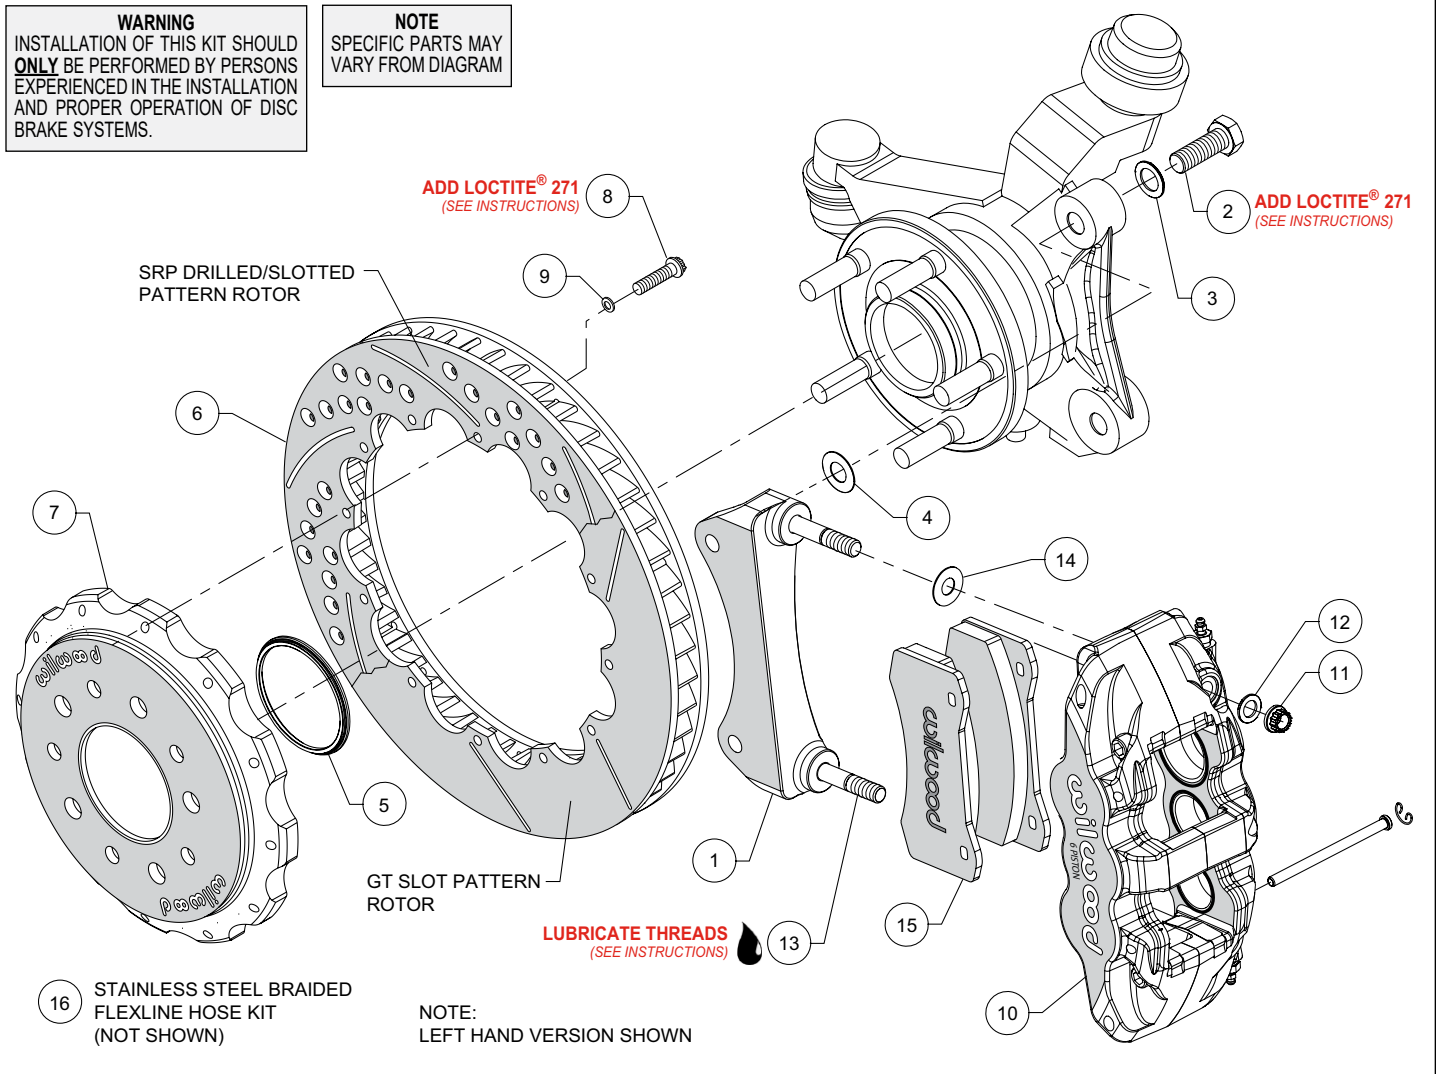
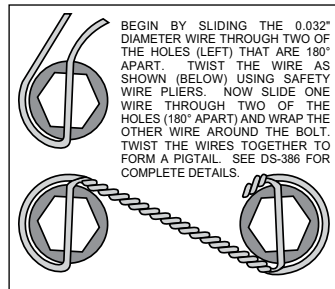

Figure 1. Typical Installation Configuration
Figure 3. Safety Wire Diagram
NOTE: Numbers in parenthesis refer to the parts list, and Figure 1 on the preceding pages.
- The caliper mount bracket (1) should initially be installed with clean, dry threads on the mounting bolts. Orient the bracket as shown in Figure 1 and Photo 1 and install using mount bolts (2) and washers (3). Initially place one .029" thick shim (4) on each bolt between the bracket and upright, Figure 1. Temporarily tighten the mounting bolts. **NOTE:** The bracket must fit squarely against the mount bosses on the upright. Inspect for interference from casting irregularities, machining ridges, burrs, etc. Later, after the caliper alignment has been checked, the mount bolts will be secured using red *Loctite*® 271.
- Orient the rotor (6) and the hat (7) as shown in Figure 1 and Photo 2. Attach rotor to hat using bolts (8) and washers (9). Apply red *Loctite*® 271 to the bolt threads and torque to 155 in-lb using a criss-cross pattern. For an added measure of security, the bolts may be safety wired using standard 0.032 inch diameter stainless steel safety wire as shown in Figure 3. Please refer to Wilwood's data sheet DS-386 (available at www.wilwood.com/Pdf/DataSheets/ds386.pdf) for complete safety wire installation instructions.
- Slide the rotor registration adapter (5) onto the axle register on the axle hub with the smaller O.D. facing outward, Figure 1 and Photo 3.
- **NOTE:** This kit contains distinct right and left hand calipers that must be mounted in a specific direction, as described below. Lubricate the caliper mounting studs (13) with lightweight oil. Initially place one .030" thick shim (14) on each stud between the caliper and the bracket, as shown in Figure 1 and Photo 6. Mount the caliper (10) onto the bracket (1) using lock nuts (11) and washers (12), Figure 1. Temporarily tighten the lock nuts. Ensure that the caliper is mounted so the largest pistons are at the rotor exit end of the caliper, in relation to the direction of the rotor. View the rotor through the top opening of the caliper. The rotor should be centered in the caliper, Photo 7. If not, adjust by adding or subtracting shims (4) between the bracket and the upright. Always use the same amount of shims on each of the two mounting bolts. Once the caliper alignment is correct, remove the bracket mounting bolts (2) one at a time, apply red *Loctite*® 271 to the threads, and torque to 77 ft-lbs.
sliding out the pins. Insert the brake pads (15) into the caliper from the bottom, Figure 1 and Photo 8. With the friction material facing the rotor, secure the brake pads in place with the pad retaining pins and clips, Figure 1 and Photo 9. Reinstall the caliper onto the caliper mounting bracket and temporarily tighten the lock nuts. Check that the top of the brake pad is flush with the outside diameter of the rotor, Photo 10. If not, adjust by adding or subtracting shims (14) between the caliper and the bracket. After the caliper pad height is set, torque the caliper lock nuts (11) to 47 ft-lb.